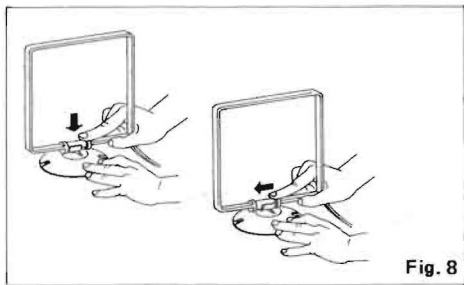

Fig. 8
- How to assemble the AM loop antenna (Fig. 8)